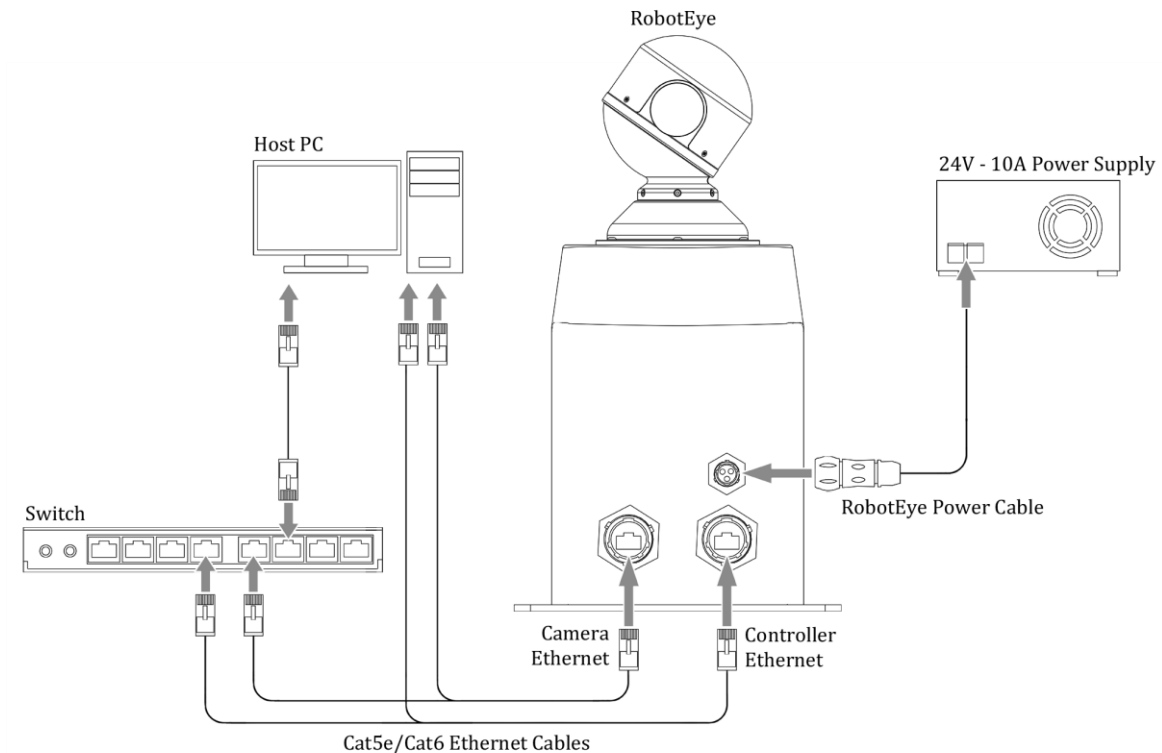

Figure 2.5 Wiring and connections for the REV25-ST System
1. Connect one end of the Ethernet cable to the network port on the PC or Switch. Connect the other end to the REV25-ST Control Ethernet port (right-side Ethernet connector). Refer to Figure 2.5.